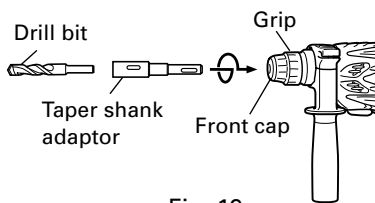
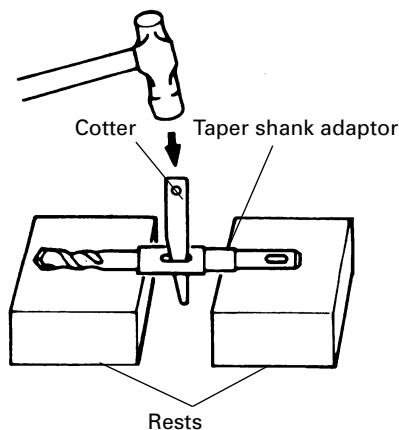

Fig. 19
Fig. 20
- (1) Mount the taper shank adaptor to the rotary hammer (Fig. 19).
- (2) Mount the drill bit (taper shank) to the taper shank adaptor (Fig. 19).
- (3) Turn the switch ON, and drill a hole in prescribed depth.
- (4) To remove the drill bit (taper shank), insert the cotter into the slot of the taper shank adaptor and strike the head of the cotter with a hammer supporting on the rests (Fig. 20).